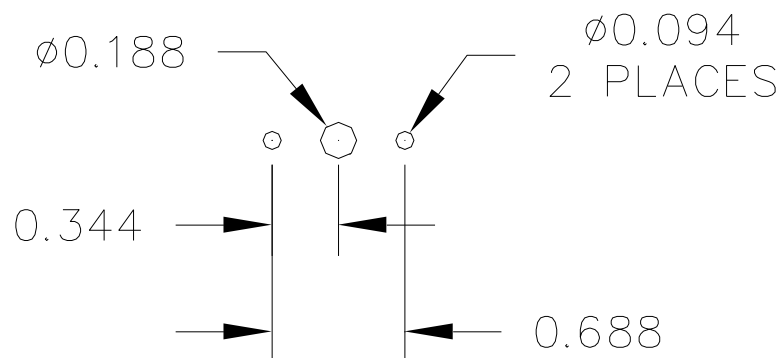

**Figure 1: Wear strip location**
3. Clean and inspect the area shown in Figure 1 for any signs of wear. If the fuselage skin shows signs of wear other than removal of the paint finish or scuffing to the surface of the metal, or contains a crack that is no greater than 6" in length, implement the Repair Scheme defined below. If damage exceeds this amount contact GippsAero Pty. Ltd. with full details.
4. If no wear is present, position the two wear strips, GA8-538021-335, over the area shown in Figure 1 (LH side shown) and retain in position with adhesive tape. Mark the position of the holes then drill to 3/32-inch, clean and de-burr these holes. Prepare the area using a 240 Grade abrasive cloth then clean with a suitable solvent. Remove the protective strip from the back of each wear strip and apply a thin coating of 164G00002, (Pro-Seal 34 or Hysol EA9394 may be used as alternatives) to the back of each strip. Attach the strips using the MS20426AD3-4 countersunk rivets supplied. Ensure the strips are pressed firmly against the skin and that the wear strip remains flat. Remove any excess sealant. Adhesive tape or appropriate clamps may be used to hold the strips firmly in position until the sealant has properly cured.